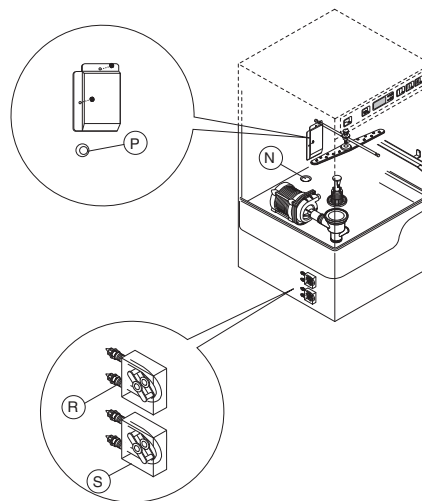

Figure 12
1. Dishwasher with incorporated detergent dispenser pump (Figure 12).
2. Dishwashers with incorporated peristaltic rinse-aid dispenser pump (Figure 12).
Connections for automatic detergent dispenser (Figure 12)